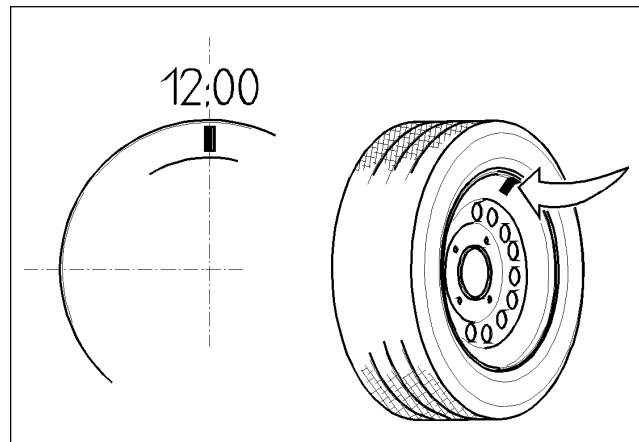

Fig. 60
**K.** Mark the *rim* on the inner or outer plane (as indicated by the angular displays lit on) (Fig.60).